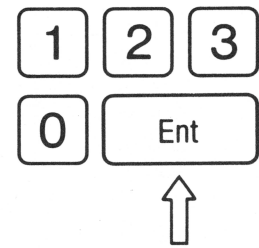

Figure 9. **Ent** Key.
4. Press **Ent** (Figure 9). This enters set-temperature in microprocessor memory.
7. Press **Ent** (Figure 9). This enters set-time in microprocessor memory.
4. Press **[Ent]** key (Figure 9). This enters set-temperature in microprocessor memory.